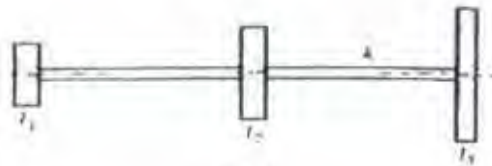

Fig. 1
- b A steel shaft of diameter 10 cm is carrying three masses 2.5 kg, 3.75 kg and 7 kg respectively as shown in Fig. 1. The distance between the rotors is 0.7 m. determine the natural frequencies of torsional vibrations. The radii of gyration of three rotors are 0.20, 0.30 and 0.40m respectively. Take $G = 9 \times 10^8$ N/m². 10